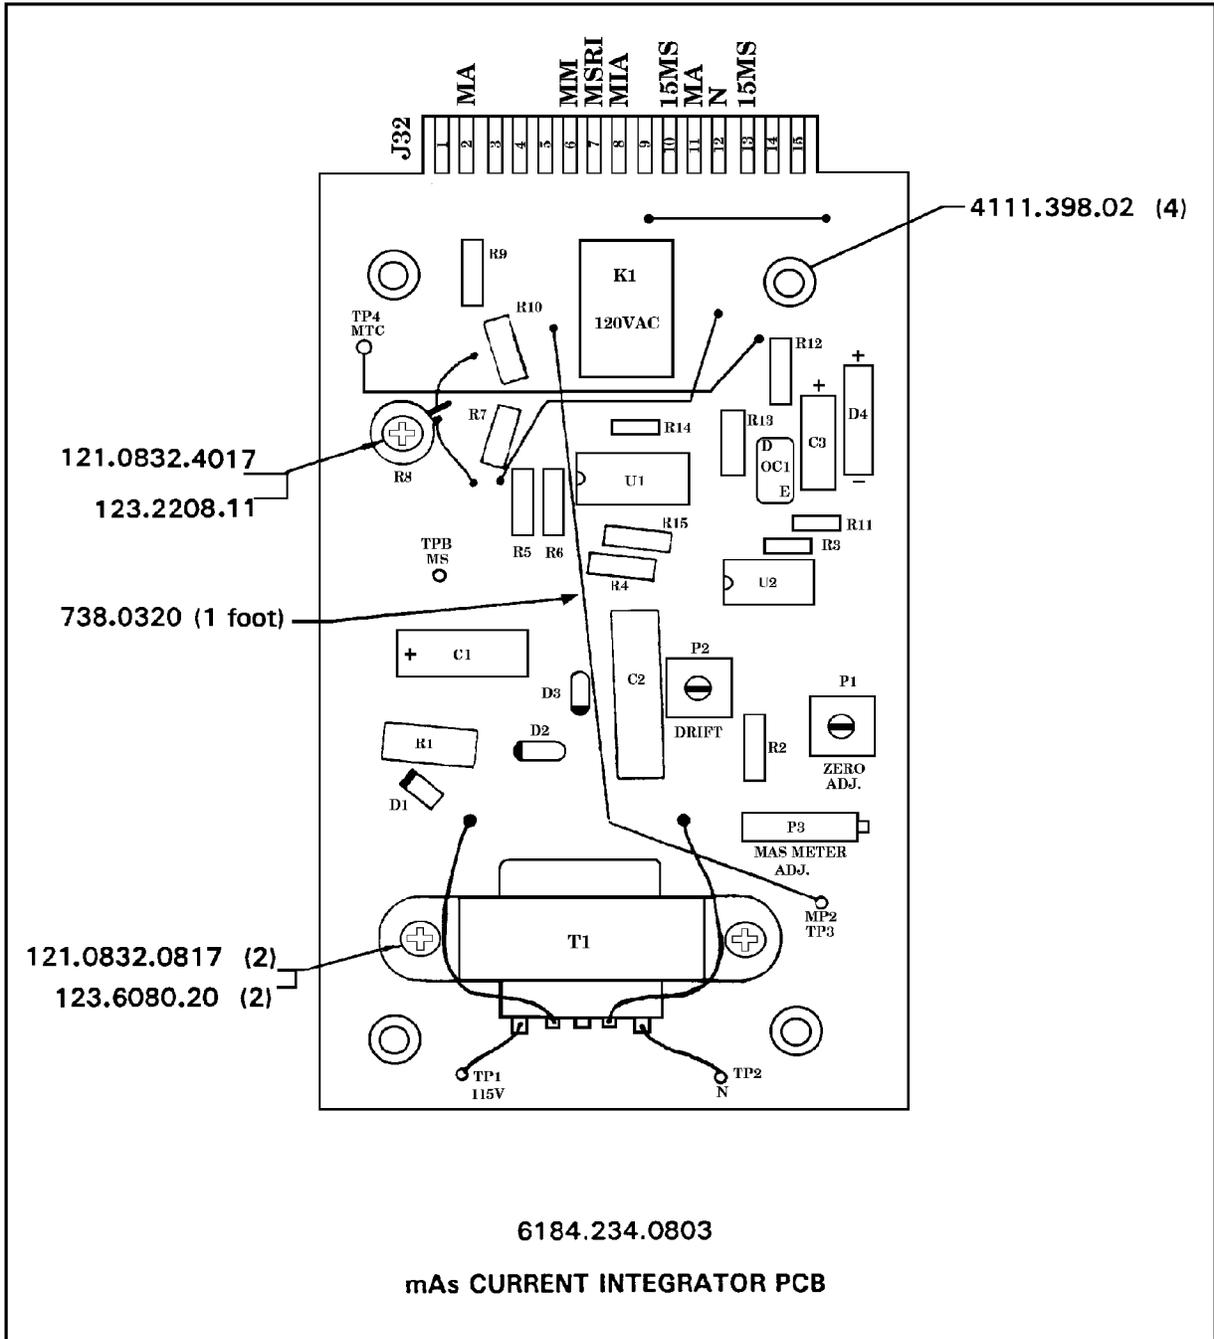

Figure 3-74
- (2) Turn the MAINS on and select 100L mA station, <80 kVp>, and <1/2 second>.
- (3) Press and hold the mAs push button while making an exposure and observe the mAs meter while holding PREPARE, EXPOSE, and mAs after the exposure ends. It should read 50 mAs  $\pm$ 5%.
- (4) If the mAs meter on the control panel drifts up or down, adjust pot P2 (Drift) accordingly on the mAs Current Integrator PCB. (See Figure 3-74 for zero indication.)
- (5) Release all buttons and press mAs only. The mAs meter should read zero.
- (6) Adjust pot P1 (Zero Adjustment), as necessary, on the mAs Current Integrator PCB for zero indication. (See Figure 3-74.)
- (7) Compare the meter reading on the control to the digital mAs meter.
- (8) Adjust pot P3, as necessary, on the mAs Current Integrator PCB (6184.234.0803) until the meter on the control panel equals that on the digital meter. (See Figure 3-74.)
- (9) Make another exposure and adjust pot P3 (mAs Meter Adjustment) on the mAs Current Integrator PCB for 50 mAs  $\pm$  5%.